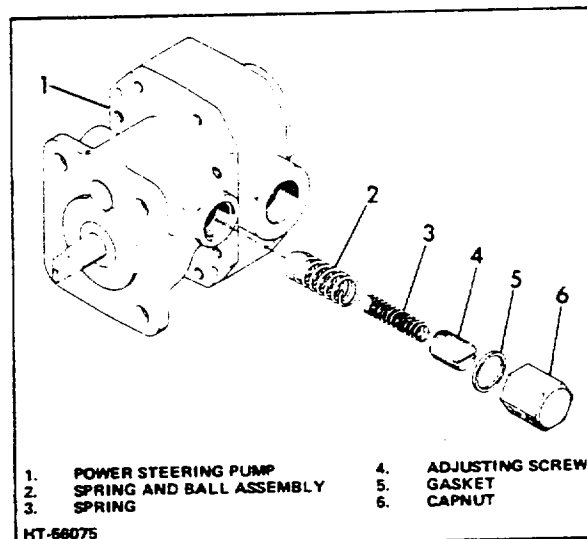

Figure 3-25. Power Steering Pump
6. To adjust pressure, remove cap nut (Fig 3-25) from adjusting screw in power steering pump. Turn adjusting screw IN to increase pressure or OUT to decrease it.